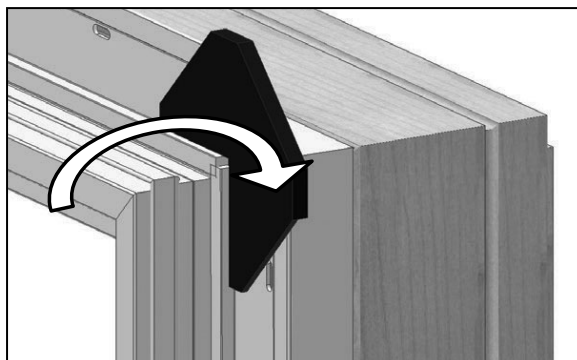

FIG. 10
- a. Apply the adhesive side of the pad to the outside of the nailing fin corner and fold over the nailing fin. (Fig. 10)